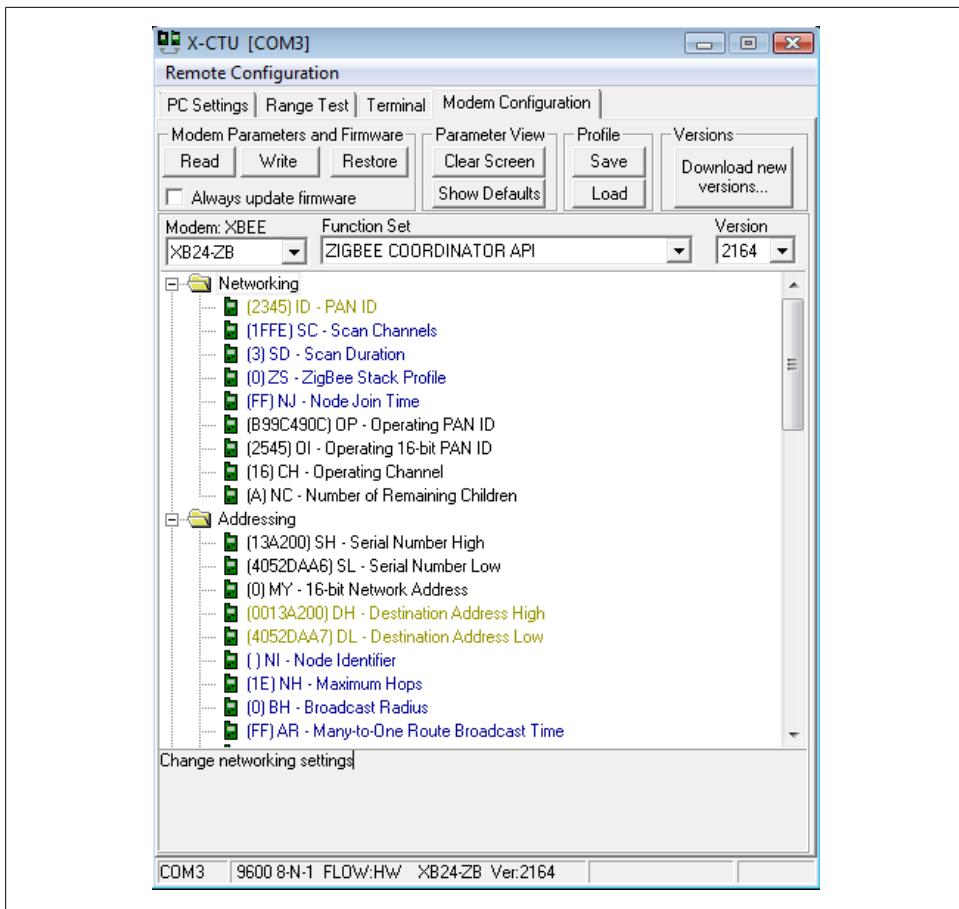

Figure 4-4. Setting ID, DH, and DL in X-CTU
3. Use X-CTU (Figure 4-4) to set ATDH to the high part of your *router* radio's address (always 0013A200 for XBee) and ATDL to the remainder of your *router* radio's address (the unique part of the number you noted above).